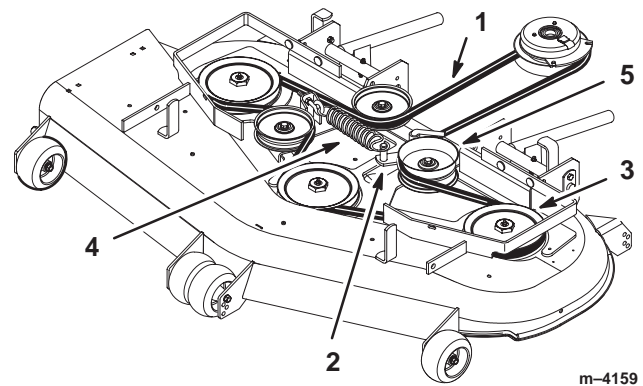

Figure 53
4. Remove the belt. Start at the outside pulley and rotate the belt off (Fig. 53).
7. Install the idler pulley and route the belt onto the other pulleys (Fig. 53).